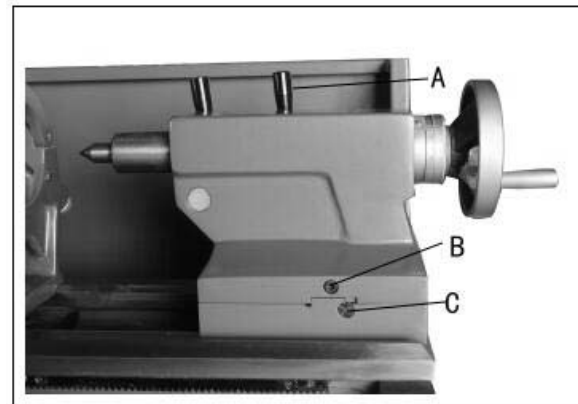

Figure 24
If the handle (A, Fig. 24) will not lock the tailstock, follow the procedure below :
1. Lock tailstock in position by raising locking handle (A, Fig. 24).
2. Alternately loosen and tighten two hex socket cap screws (B, Fig. 24).
Take up play in the tailstock by tightening two gib screws (C, Fig. 24) on either side of the tailstock base.